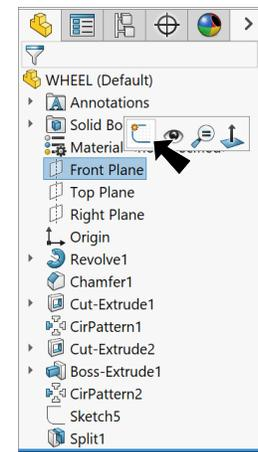

Fig. 36
Step 2. Click **Front Plane**  in the Feature Manager and click **Sketch**  on the context toolbar, **Fig. 36.**
Step 4. Click **Line**  (L) on the Sketch toolbar.